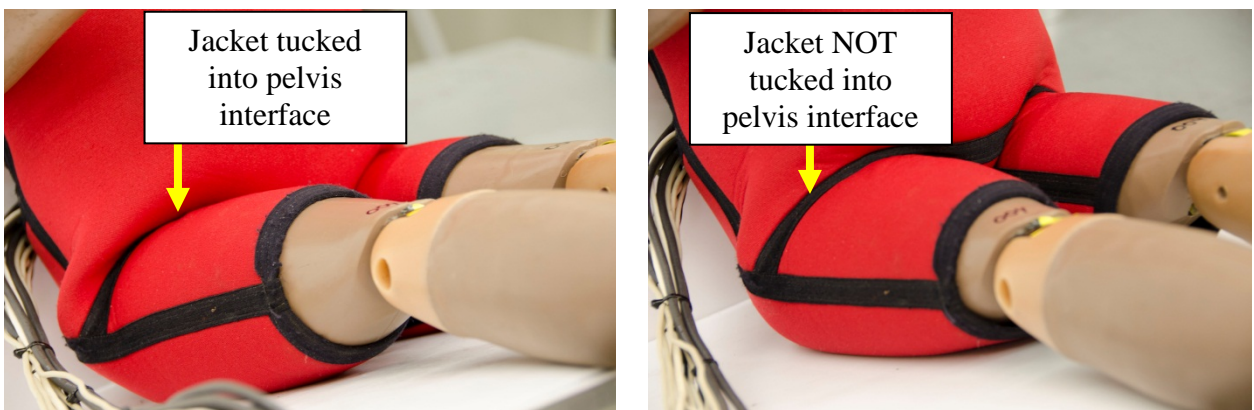

Figure 107. Ensure that jacket is not tucked into pelvis/femur interface
- Be sure the bolts on the positioning tool are correctly seated into the knee (Figure 107).